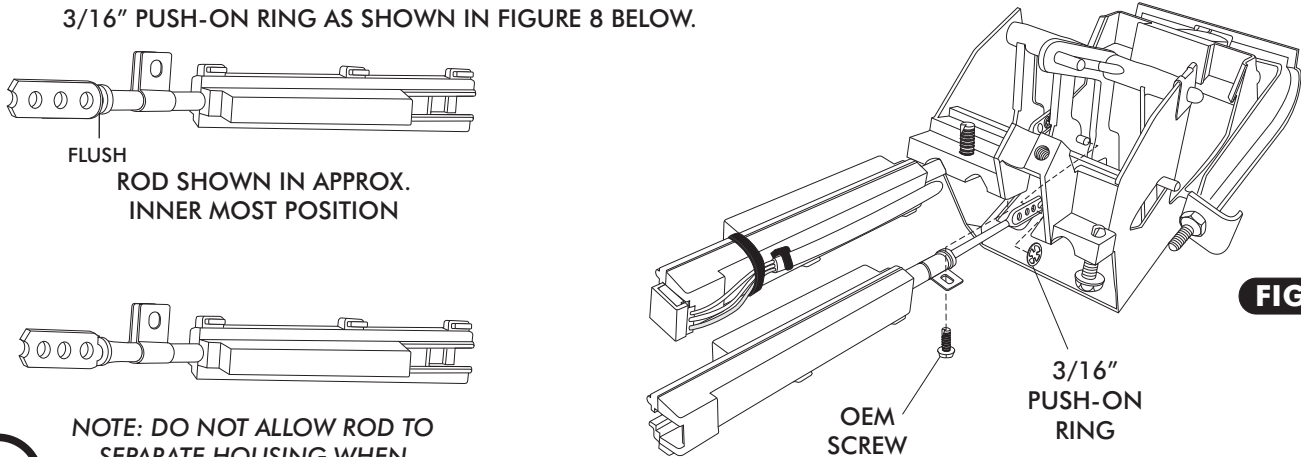

FIGURE 8
- INSTALL CABLE CONVERTER ASM ON THE MODE LEVER. SEE FIGURE 8 BELOW.
- INSTALL CABLE CONVERTER LEVER PUSH ROD ONTO OEM CABLE MOUNTING STUD ON LEVER. SEE FIGURE 8 BELOW.
- SECURE THE CABLE CONVERTER ASM TO THE CONTROL PANEL USING THE OEM SCREW IN THE OEM CABLE CLAMP MOUNTING LOCATION. SEE FIGURE 8 BELOW.
- SINCE THE CABLE CONVERTER ASSEMBLY CAN SLIDE BACK AND FORTH IN CLAMP BEFORE SCREW IS TIGHTENED, POSITION CABLE CONVERTER ASSEMBLY SUCH THAT THE FLAT PART OF THE ROD IS AS CLOSE TO FLUSH AS POSSIBLE WITH THE END OF HOUSING AT THE LEVER'S INNER MOST POSITION. SEE FIGURE 8 BELOW.
- SECURE CABLE CONVERTER LEVER PUSH ROD ONTO OEM CABLE MOUNTING STUD USING 3/16" PUSH-ON RING AS SHOWN IN FIGURE 8 BELOW.